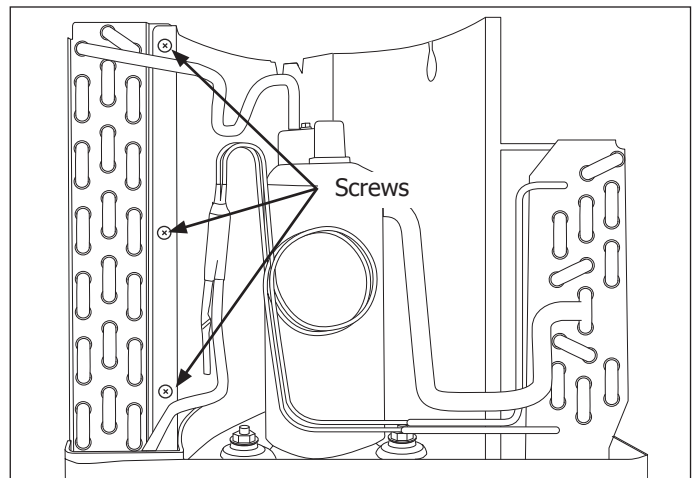

Figure 4-66.
6. Extract the three screws along the left side of the condenser securing the condenser fan shroud in position. (See Figure 4-66)